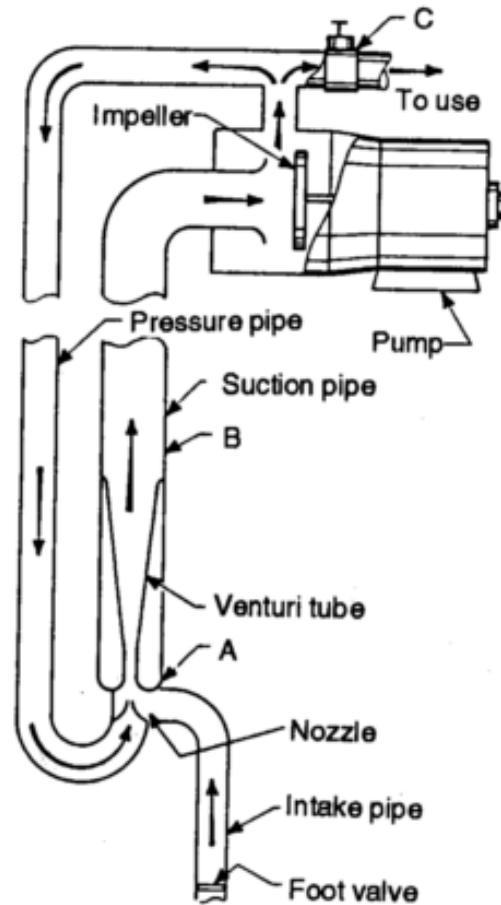

Figure 4-8. Jet pump
d. *Jet Pump*. This pump is a combination of a surface centrifugal pump, down-hole nozzle, and venturi arrangement (Figure 4-8). It can be used in small diameter wells that require a lift of 100 feet or less. The pump supplies water, under pressure, to the nozzle. The increase in velocity at the nozzle results in a decrease in pressure at that point, which in turn draws water through the foot